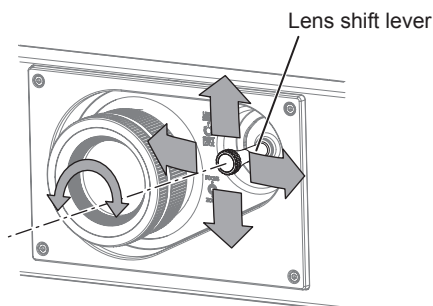

Fig. 1
3) Adjust the lens shift. (Fig. 1)